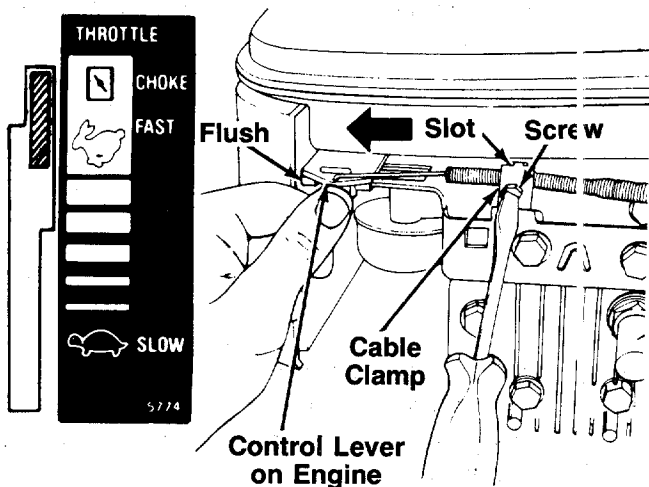

FIGURE 6C.—Models 446R, 449R, 456R & 459R
1. Push the throttle control lever on the handle all the way forward to **CHOKE** position. See figure 6C.
2. The throttle control cable is attached to the upper handle. Route the throttle control cable under the lower handle and inside the handle mounting bracket. Hook the "Z" end of the throttle control cable into the hole in the control lever on the engine. See figure 6C.
3. Using a 5/16" wrench or nutdriver, remove the screw on the cable clamp shown in figure 6C. Slip the control casing under the clamp. Replace the screw (cable should be above the screw), but do not tighten (cable must still move freely beneath the clamp). Make certain the tab on the cable clamp is seated into the slot on the engine.
4. Push the control lever on the engine as far toward the outside of the engine as it will go. The edge of the control lever should be **flush** with the bracket on the engine. See figure 6C. Hold the control lever in this position as you tighten the screw on the cable clamp to secure the throttle cable.